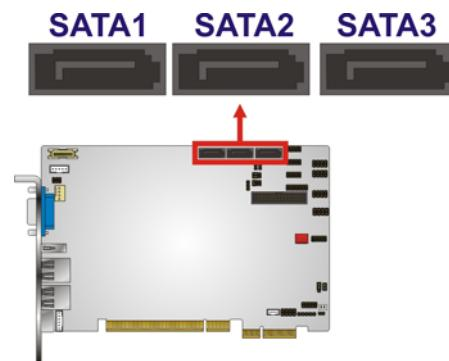

Figure 3-14: SATA Drive Connector Locations
**CN Location:** See Figure 3-14